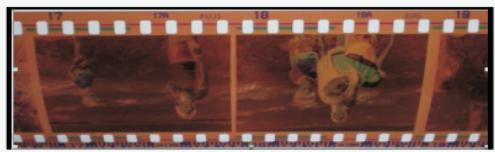
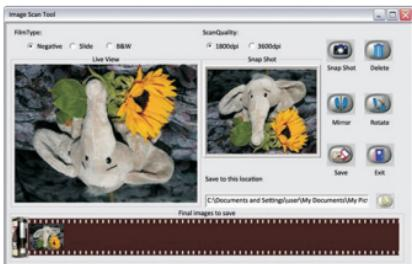

Figure 2
Figure 3
- ❖ If the image is upside down [see fig.2], the image can be corrected by "Rotate" function in Image Scan Tool after capture [see fig.3].